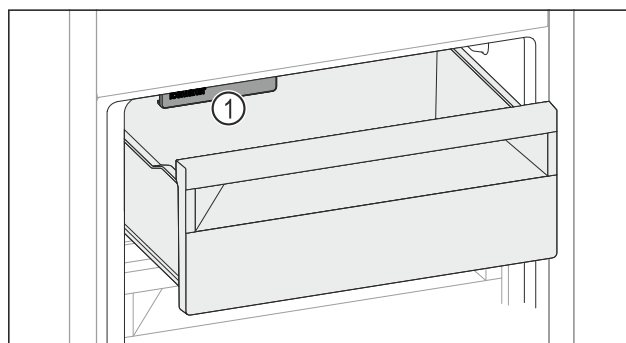

Fig. 128
- Pay attention to the IceMaker Fig. 128 (1).